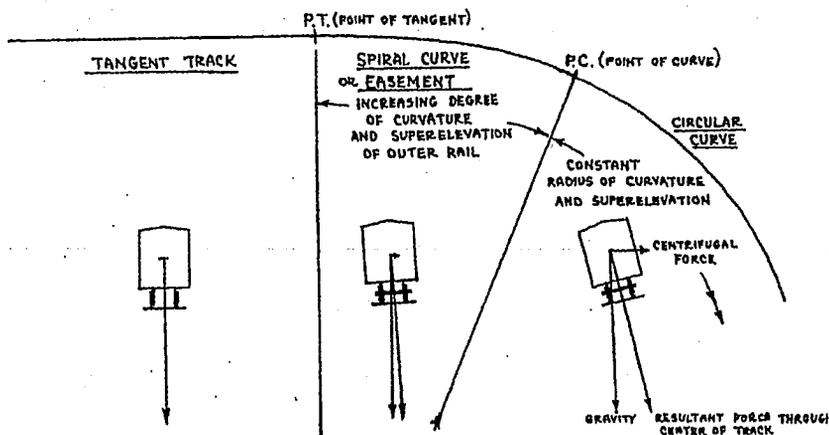

Figure 3-2 From Tangent to Curve — Smoothly
Superelevation (SE) in the prototype is the process of elevating the outside rail of the track in order to combat the centrifugal forces created when a train goes through a curve "at speed". Figure 3-2, as reprinted from John Armstrong's book, "The Railroad, What It Is, What It Does", gives you a good perspective on the process of SE in the prototype. SE is gained gradually, over the length of the entry easement reaching maximum SE when the train is into the circular curve. The train then eases back down to level as it exits the circular curve and through the exit easement. By doing this, the train can remain "at speed" throughout the entire curve.